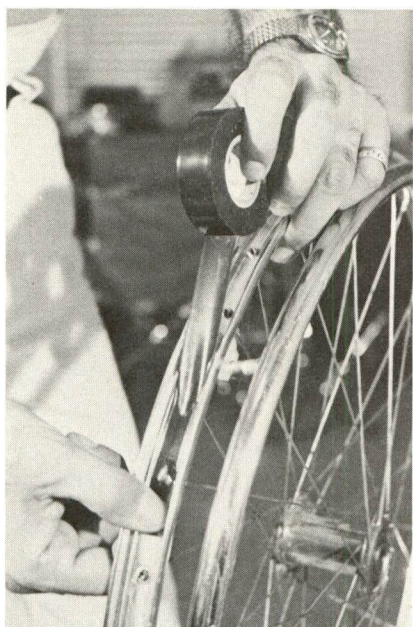

Figure 5
3. Line the receptacle groove. Electrical tape can be used to protect the tube from rust and spoke heads. If you line the receptacle, use no more than two wraps with the electrical tape. The tube needs to be seated in the receptacle groove. Too many tape wraps will fill the groove and make installing the tire very difficult. Punch a hole for the valve stem in the tape (see fig. 5).